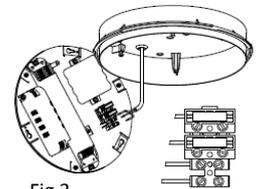

Fig 3
- Terminate the cable into the terminal block mounted on the underside of the gear tray ensuring correct polarity is observed and the luminaire is earthed and any bare conductors are sleeved – Fig 3